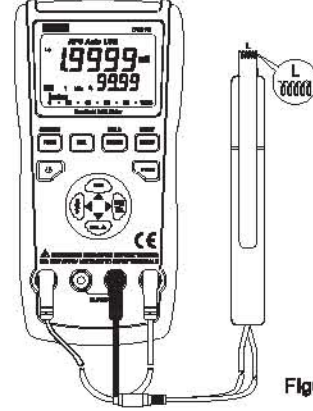

Figure 10
- 3) Insert the inductor into input terminals or connect the inductor to the meter using the test clamp(See Figure 10).